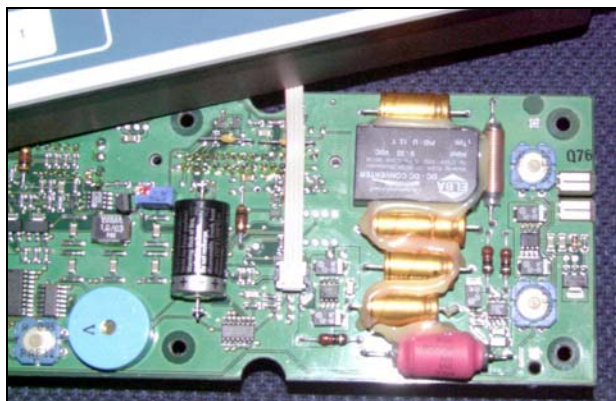

Fig. 20
- Undo the fastening screws of the control panel board and lift the board carefully, see Fig. 20.
Pay attention to the polarity of the battery, see Fig. 20.